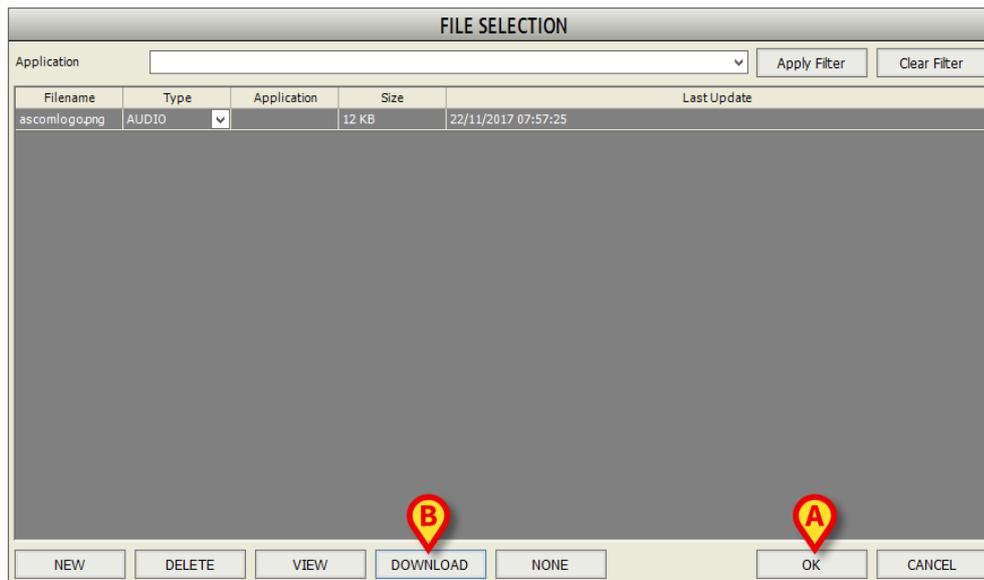

Fig 29
3. Select the row corresponding to the wanted file and click **Ok** (Fig 29 **A**).
1. Click the **Download** button (Fig 29 **B**).